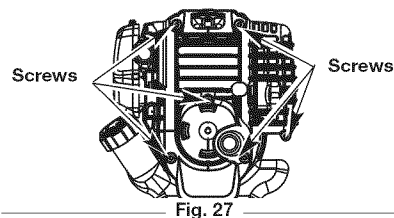

Fig. 27
- Remove the six (6) screws on the back of the engine cover with a Flat-head or T-25 Torx screwdriver (Fig. 27).
- Remove the engine cover (Fig. 27).
1. Stop the engine and allow it to cool. Remove the six (6) screws on the back of the engine cover with an appropriate tool (Fig. 27).